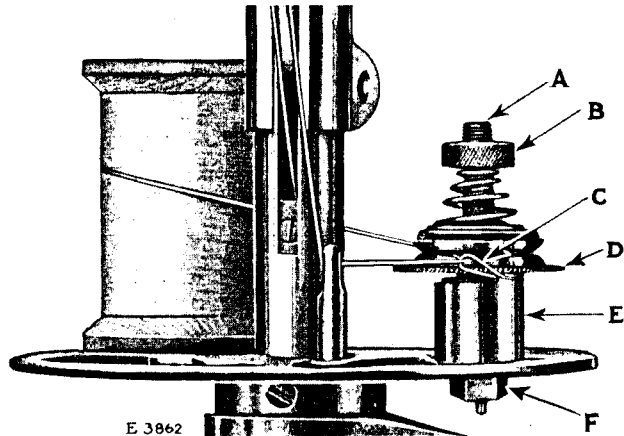

FIG. 28. ADJUSTMENTS ON THE THREAD CONTROLLER SPRING
(SEE FIG. 28)
The tension on the needle thread is regulated by the thumb nut (B, Fig. 28, page 22) above the tension discs at the top of the machine. To increase the tension turn this thumb nut over to the right or downward. To decrease the tension turn the thumb nut over to the left or upward.
The stopping position of the thread controller spring (C, Fig. 28) should be so adjusted that when the machine is sewing, the spring will have a movement of about one inch.
To adjust the stopping position of the spring, loosen the hexagon nut (F, Fig. 28) on the underside of the spool platform and turn the barrel (E, Fig. 28) until the desired stopping position is reached, then securely tighten the hexagon nut (F).
The tension on the thread controller spring should be just tight enough to take up the slack thread. To increase the tension on the spring, loosen the tension stud (A, Fig. 28) and turn the knurled disc (D, Fig. 28) over to the right. To decrease the tension on the spring, turn the knurled disc over to the left. After the desired tension is obtained, tighten the tension stud (A).